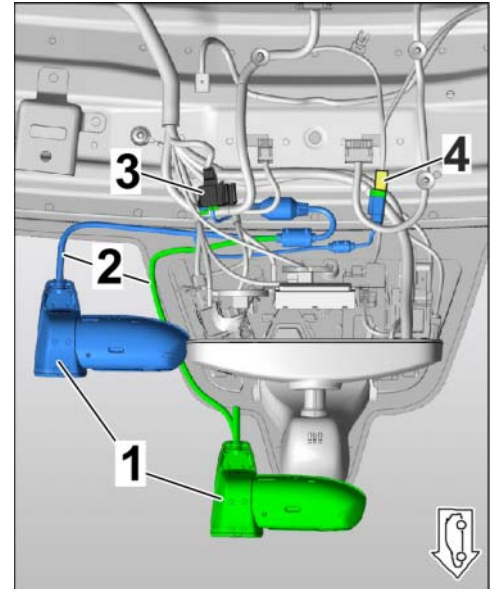

*Figure 10 (9YA)*
– Line routing - **Base (9YA)**: ⇒ *Figure 10 (9YA)*
- Blue** – Camera position for Germany (D)